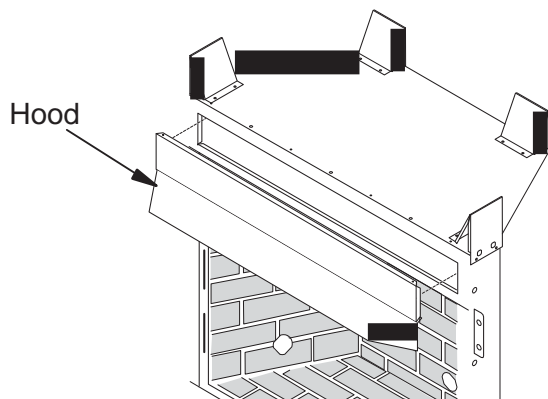

Figure 12 - Hood Placement
1. For Indoor models, attach hood and front panel assembly by snapping panel assembly into fireplace opening (see Figure 12).